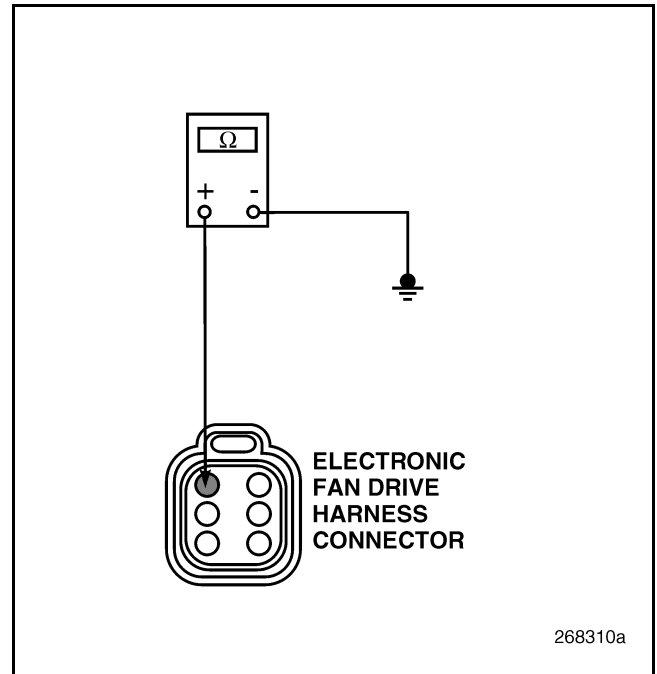

Figure 117
4. Check for continuity between electronic fan drive harness connector pin 1 and a good ground (see Figure 117).